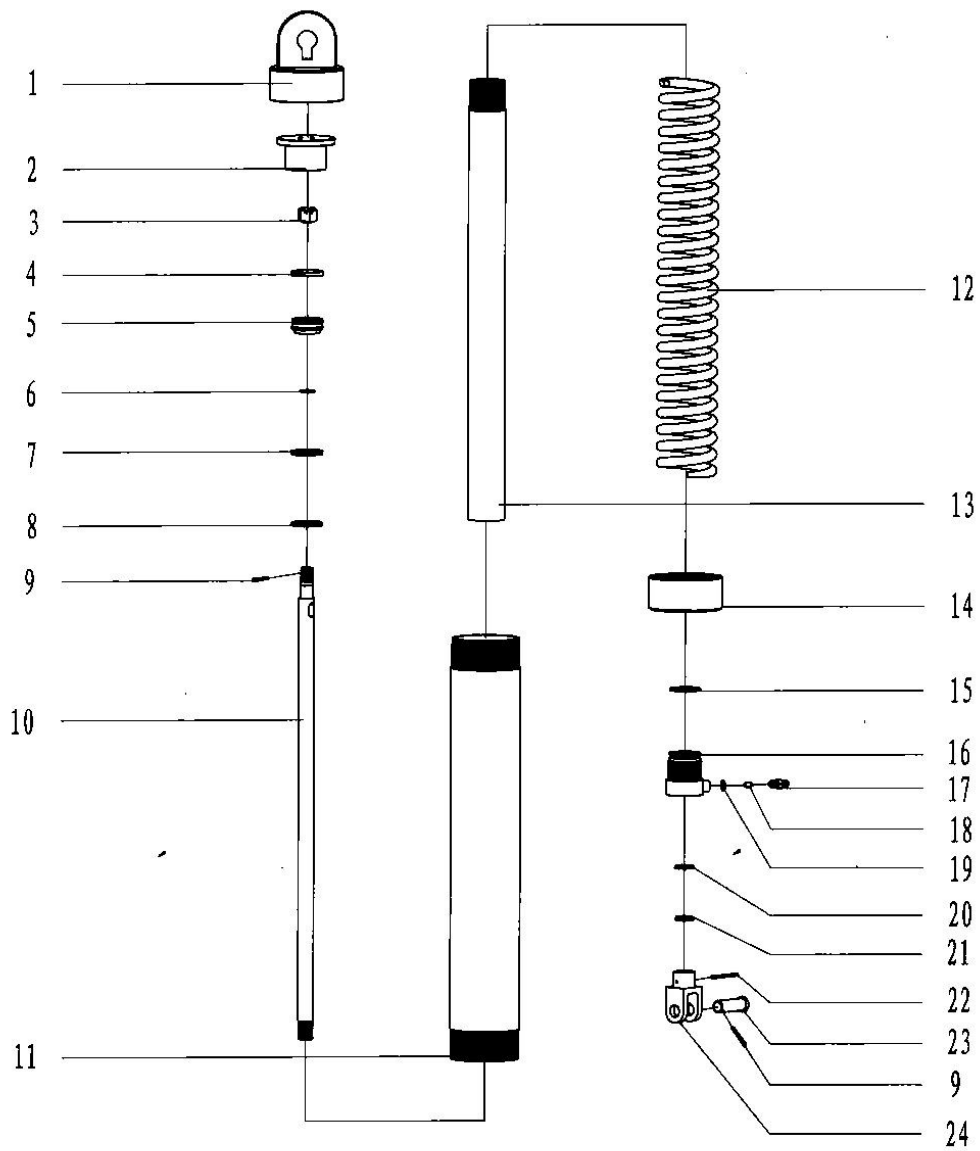

Fig. 27
9. Hydraulic spring tube assembly (Fig 27, Table 24)